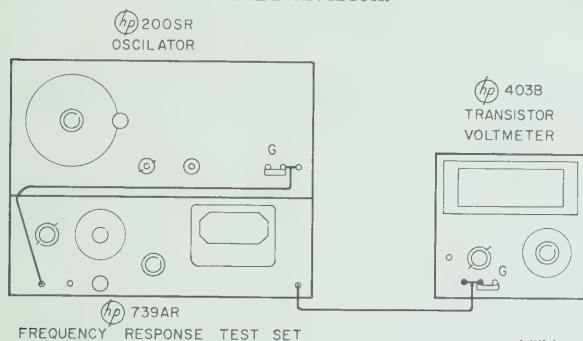

Figure 5-6. Frequency Response Setup
a. Connect an Φ 200SR Oscillator to an Φ 739 AR FREQUENCY RESPONSE TEST SET, as shown in figure 5-6.
b. Disconnect Φ 403B from Φ 738AR and connect as shown in figure 5-6.
a. Connect -hp- Model 200SR Oscillator to the -hp- Model 739AR Frequency Response Test Set as shown in figure 5-6.